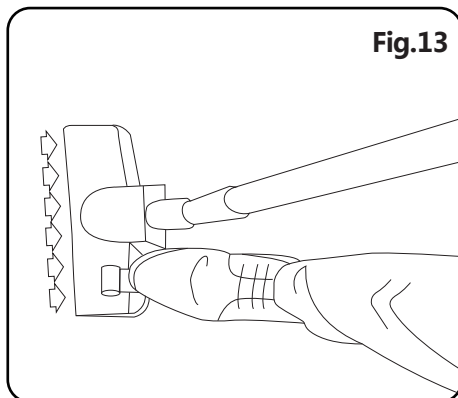

Fig.13
4. As in fig.13, tread on the pedal of the brush tool again to put the bristles in, and you can clean the carpet.